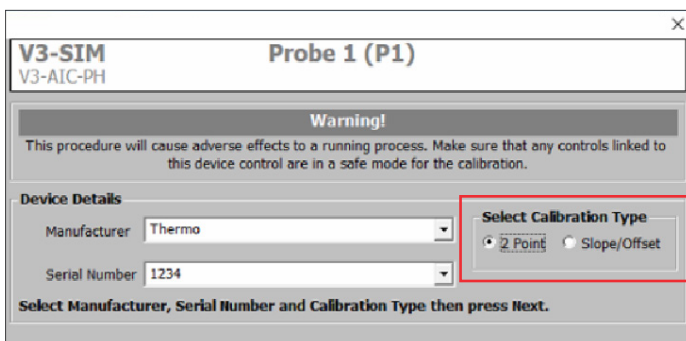

Figure 3.11. Device Details entered; 2 Point Calibration Type selected.
3. Select the **2 Point** radio button under **Select Calibration Type** (Figure 3.11).